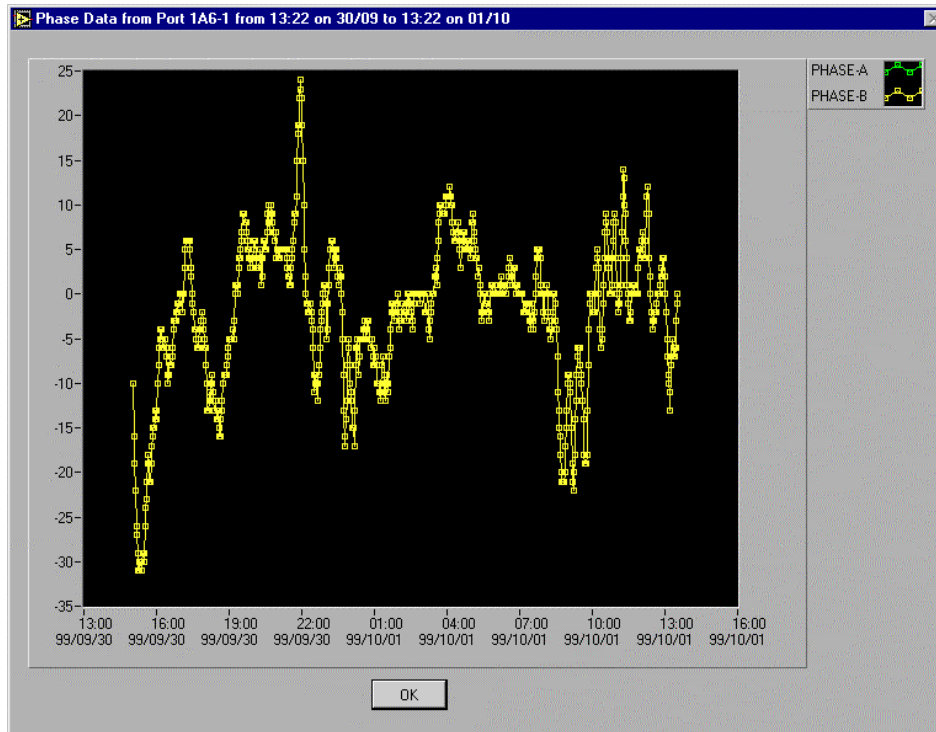
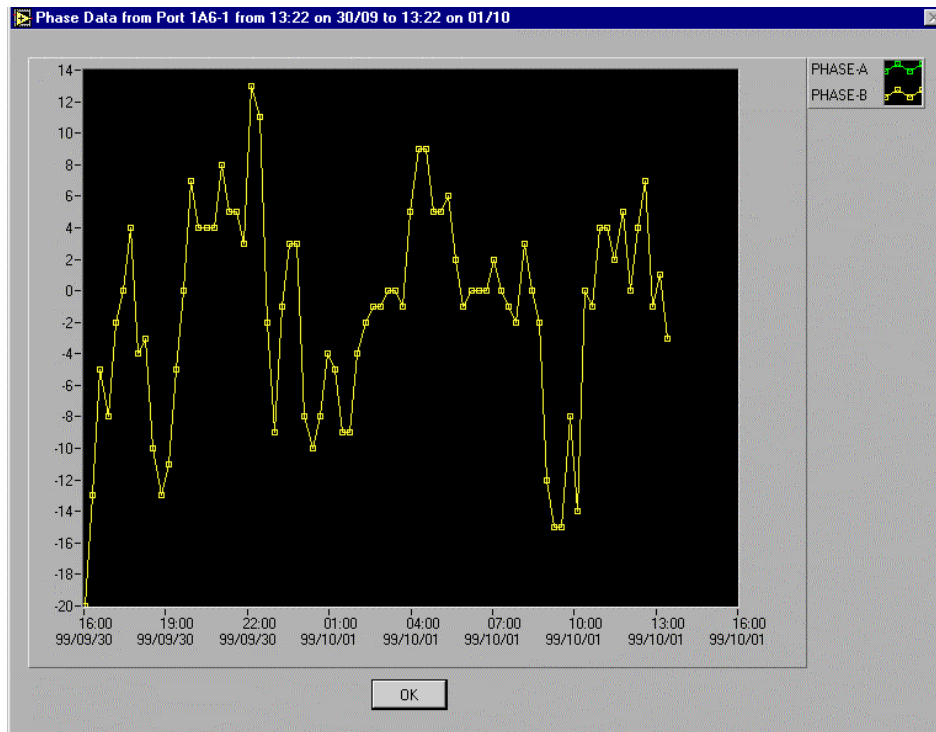

Figure 6-7. Phase Data Dialog Box (100 seconds)
Figure 6-8. Phase Data Dialog Box (1000 seconds)
- **Phase History** — Select this option to open the Phase Data dialog box (Figure 6-8) when you click **OK** in the Phase Query dialog box. The Phase Data dialog box displays the results of the phase data selection criteria you apply in the Phase Query dialog box. When you select the **Phase History** option, these additional selection criteria options become available:
Figure 6-7 shows the Phase Data dialog box with data for a 100-second averaging period; Figure 6-8 shows the same data for a 1000-second averaging period.